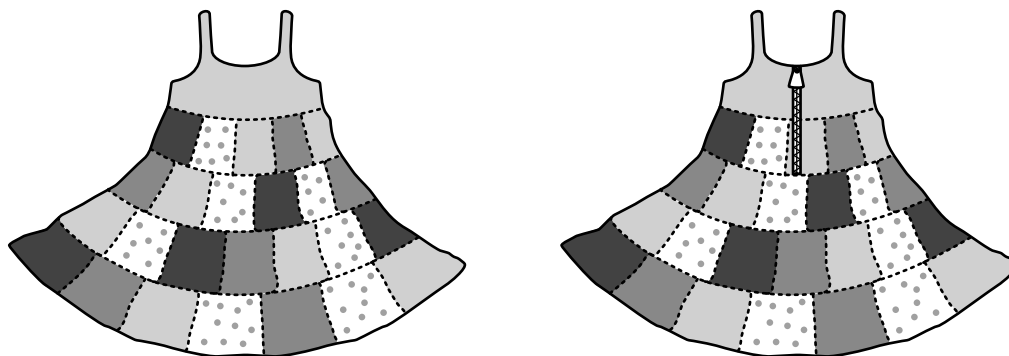

Fig. 4
- 5 Fig. 4 shows a dress made using a decorative technique.
- (c) The dress shown in Fig. 4 has a zip fastening.